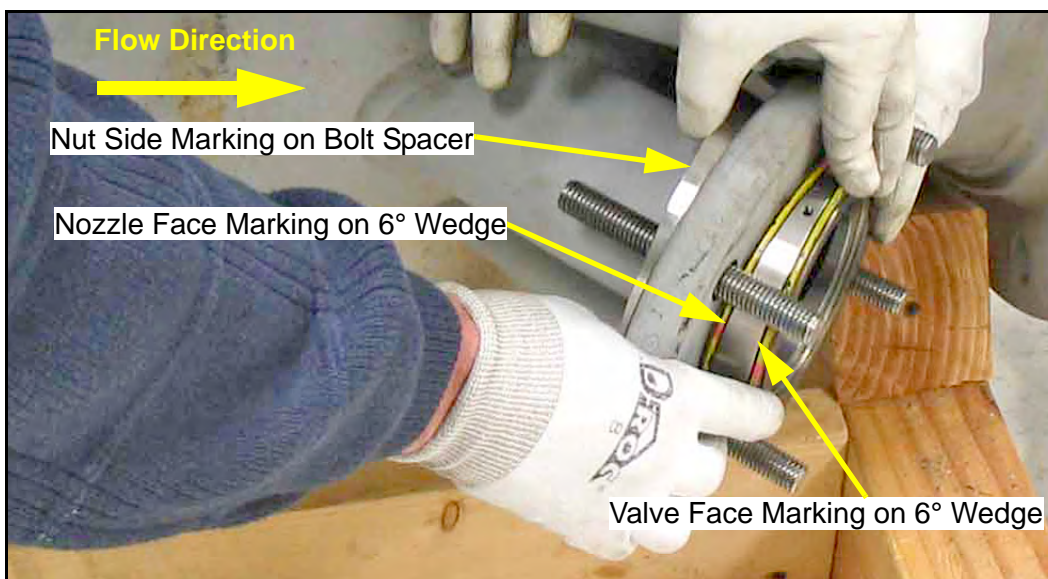

Figure 4: Mounting Bolts, Bolt Spacers, Wedge and Gaskets Positions
2. With the *Nut Side* marking facing the pipe, place the split bolt spacer halves over the bolts behind the flange, with the thin ends corresponding to what will be the thickest side of the other wedge (see *Figure 4* below).
3. With the *Nozzle Face* marking facing the pipe and the *Valve Face* marking facing outward, hold the gasket/ wedge/gasket combination in line with the insertion hole and oriented as shown in *Figure 4* on page 28.